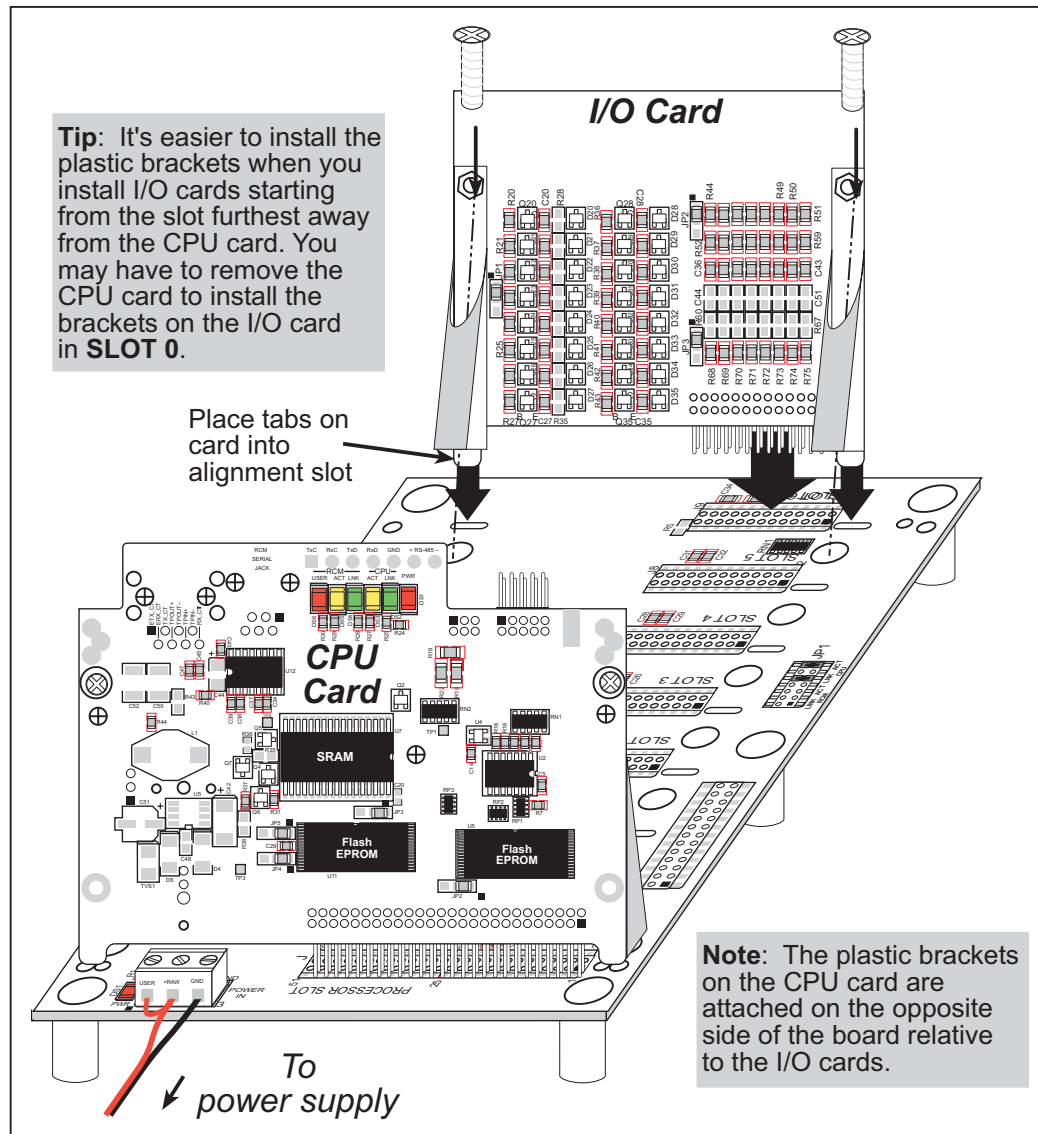

Figure 5. Installing I/O Cards on the Backplane
1. Orient the backplane with the CPU Card already installed and facing towards you as shown in Figure 5.
2. Position the new I/O card above the backplane over any unused slot position (**SLOT 0** to **SLOT 6**) as shown in Figure 5. Note the slot number and the type of I/O card since Dynamic C addresses the I/O cards by slot number.
3. Carefully insert the I/O card header into the slot on the backplane and line up the tabs on the I/O cards with the slots on the backplane as shown in Figure 5.